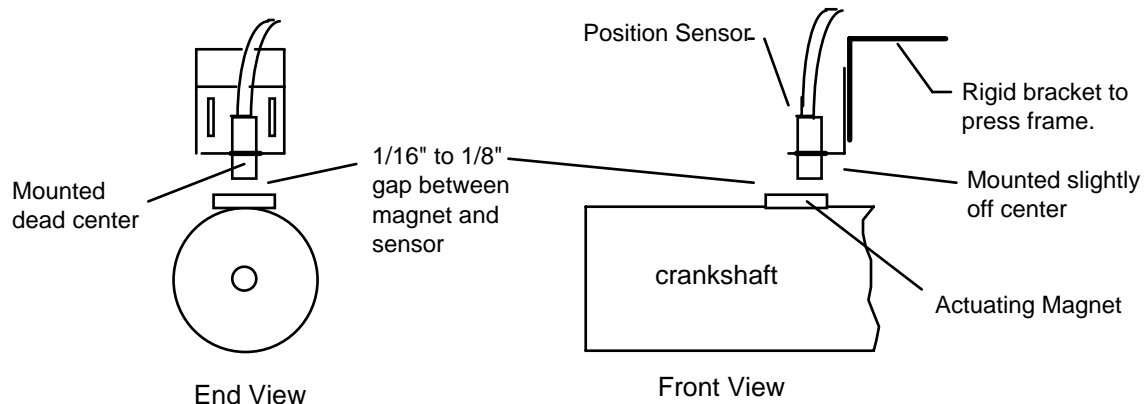

Figure 2-17. How to install the position sensor
6. Install the position sensor as shown in Figure 2-17. The magnet should be installed plastic side up with a non-ferrous metal screw. It is important not to use a ferrous screw because it could cause false signals. A brass screw (6-32) is supplied. Use a No. 36 drill and a 6-32 tap.